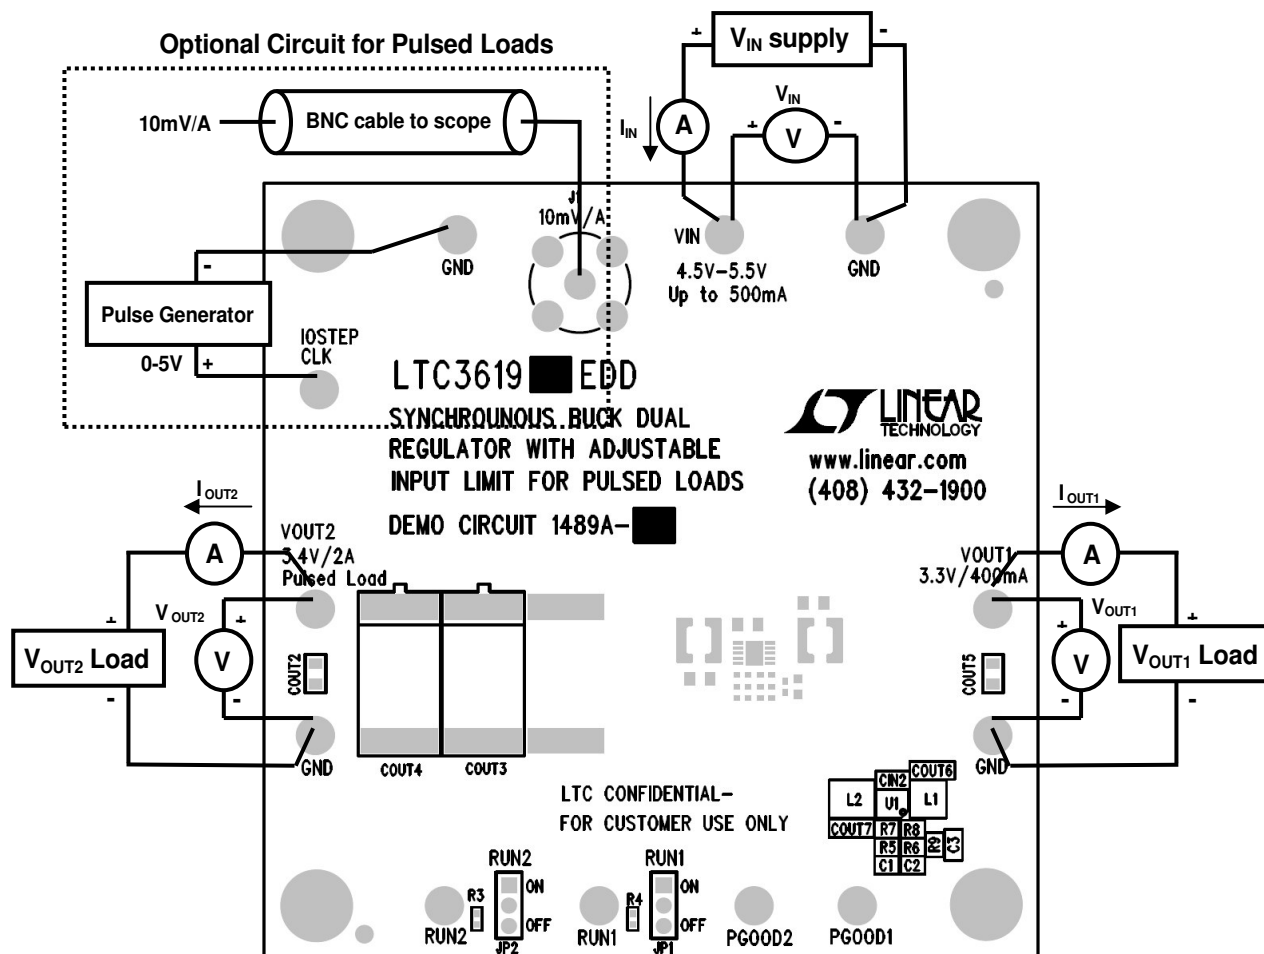

Figure 1. Proper Measurement Equipment Setup
Demonstration circuit 1489A is easy to set up to evaluate the performance of the LTC3619EDD/ LTC3619BEDD. Refer to Figure 1 for proper measurement equipment setup and follow the procedure below:
Figure 1 for proper setup. The circuit is capable of pulsed load of up to 2A with duty cycles up to 15% on V_{OUT2} .
4. A pulse generator with adjustable amplitude is connected between IOSTEP CLK and GND as indicated in Figure 1. The pulse generator should be capable of generating up to 5V pulses. Adjust the period and duty cycle of this signal to match that of the required load prior to attaching the pulse generator.